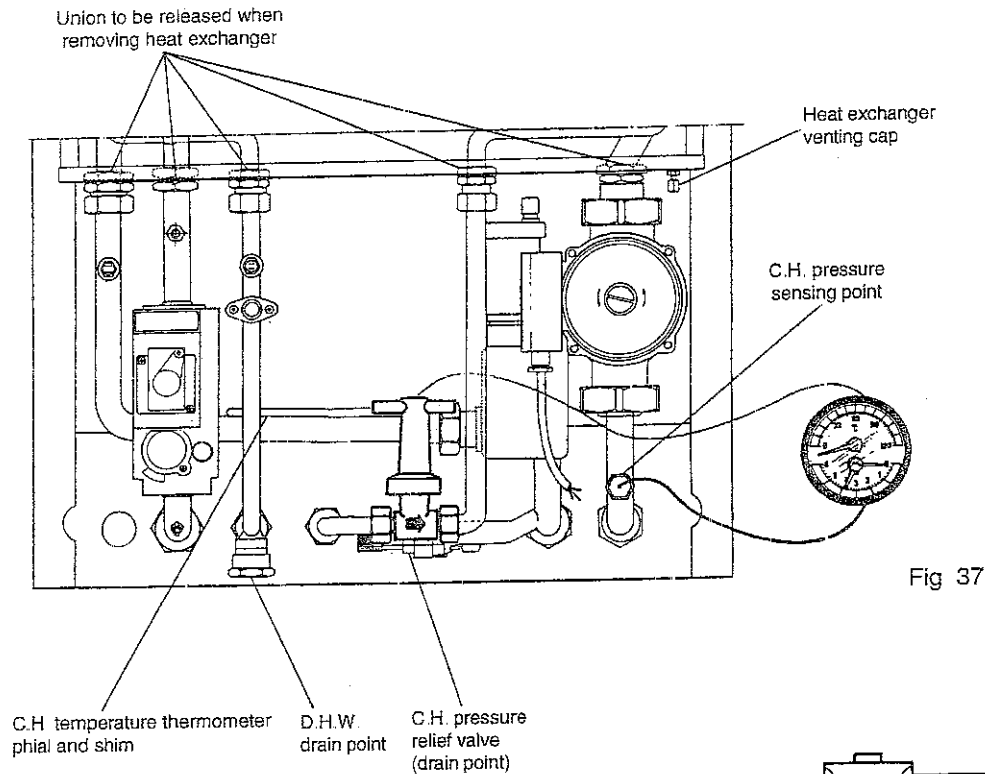

Fig 37
- b) For replacement of parts where water connections are broken, it will be necessary to isolate and drain either or both the central heating or domestic hot water circuits of the boiler only. The cold water mains inlet is isolated at the inlet cock (fig. 1). The D.H.W. is drained via drain cap (fig. 37).
- Refer to section 1, items a, b, c, d, f and g (drain D.H.W. only fig. 37).
- Remove the shim then the temperature sensing phial from its pocket (fig. 37).
- Unscrew the pressure sensor from its housing (fig. 37) (Access from below).